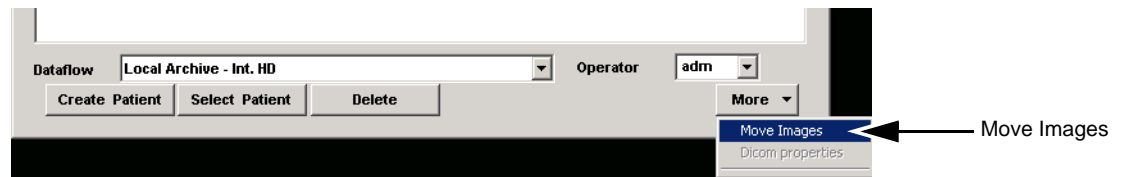
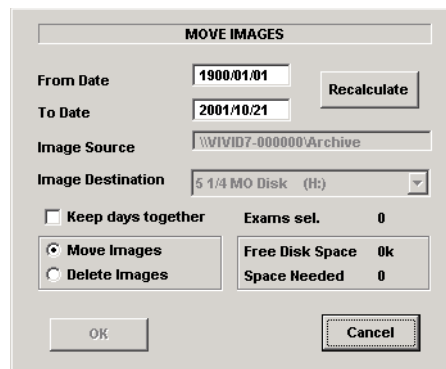

Figure 8-51 Select Move Images from the More pull-down menu
Figure 8-52 The Move Images Window
- 4.) Select *Move Images* from the *More* pull-down menu (Figure 8-51) to display the MOVE IMAGES window (Figure 8-52).